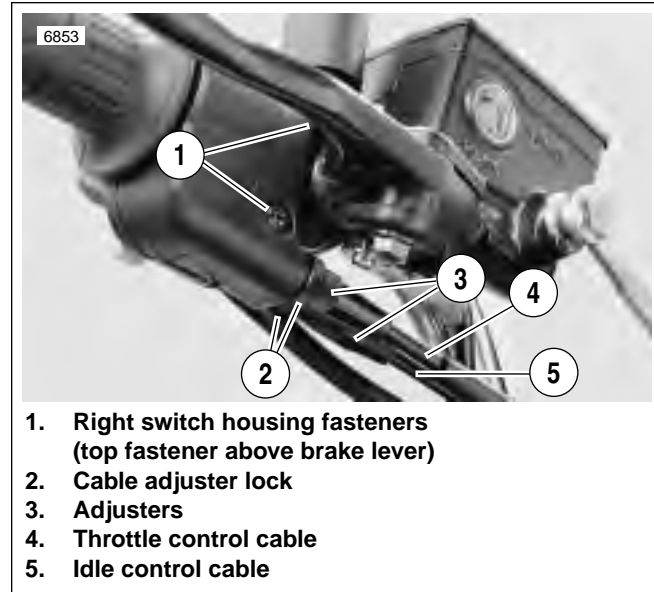
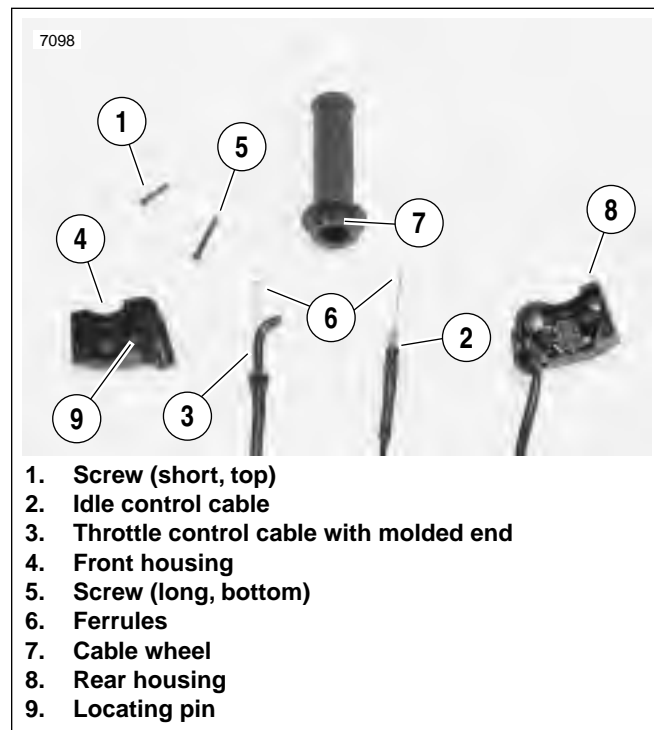

Figure 2-93. Throttle Control Cables
Figure 2-94. Cable Connections
1. See Figure 2-93. Loosen cable adjuster lock (thick disc) (3) on each cable.
2. Turn adjusters (3) in direction which will shorten cable housings to minimum length.
3. Remove fasteners (1) on right switch housing and separate housing from handlebar.
4. See Figure 2-94. Remove cables (2, 3) from notches in front housing (4).
5. Remove cables (2, 3) and ferrules (6) from cable wheel (7).
3. Install throttle grip and position ferrules (6) into cable wheel (7).
7. See Figure 2-93. Attach rear switch housing and position housings on right handlebar by engaging locating pin on front housing with hole in handlebar. Attach housings with two fasteners, installing longer fastener on bottom. Tighten to 25-33 **in-lbs** (3-4 Nm).